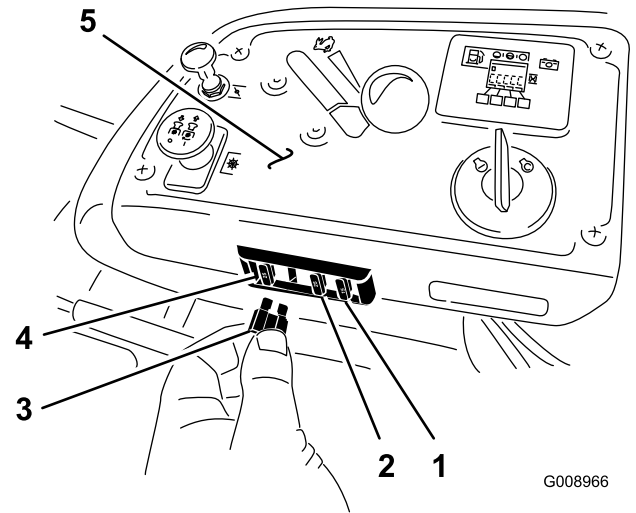

Figure 56
The fuses are located on right console next to the seat (Figure 56).
2. Install a new fuse (Figure 56).